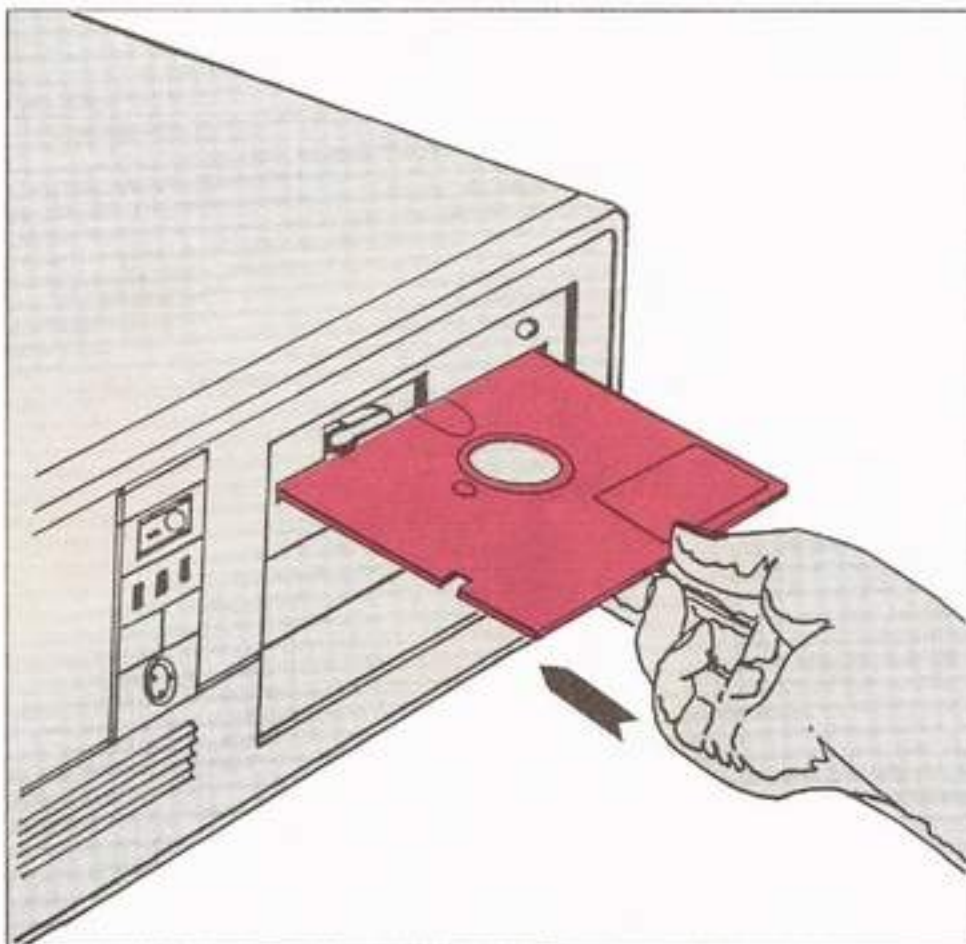

Fig. 13: Inserting a Floppy Disk
- ___ d. Carefully insert the floppy disk into the slot of the drive door, as shown in Fig. 13. The edge closest to the exposed disk surfaces goes in first. There are two small notches which flank the oval openings in the disk envelope.